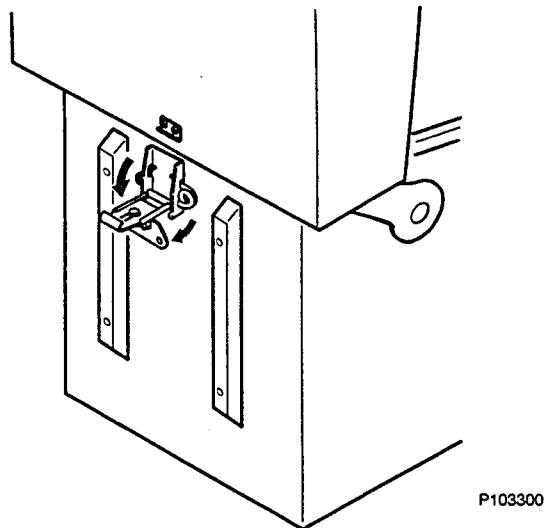

FIGURE 5: LATCH ON BACKBOX
- 6) Lift the cabinet latch and flip key upwards to the upright position. Turn the key counterclockwise (to the left) (see Figure 5).